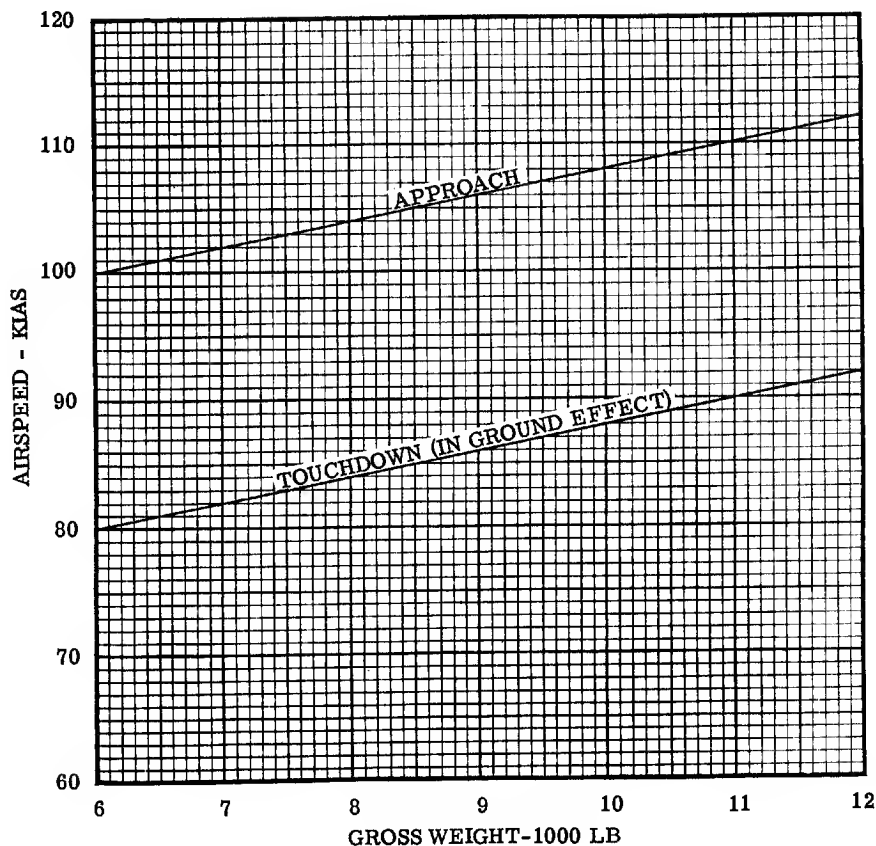

Figure A8-1
The Landing Speed Chart (figure A8-1) gives the speed over a 50 foot obstacle and at touchdown, as a function of gross weight. The recommended normal approach speed for all gross weights is 110 KIAS with 100% flaps and 120 KIAS with zero flaps.
The normal landing distance may be reduced by 30% by approaching with the minimum approach speed (see figure A8-1); however, this is only recommended when the available runway length will not permit the use of 110 KIAS approach speed.
- b. Touchdown speed (From figure A8-1)..... 92 KIAS